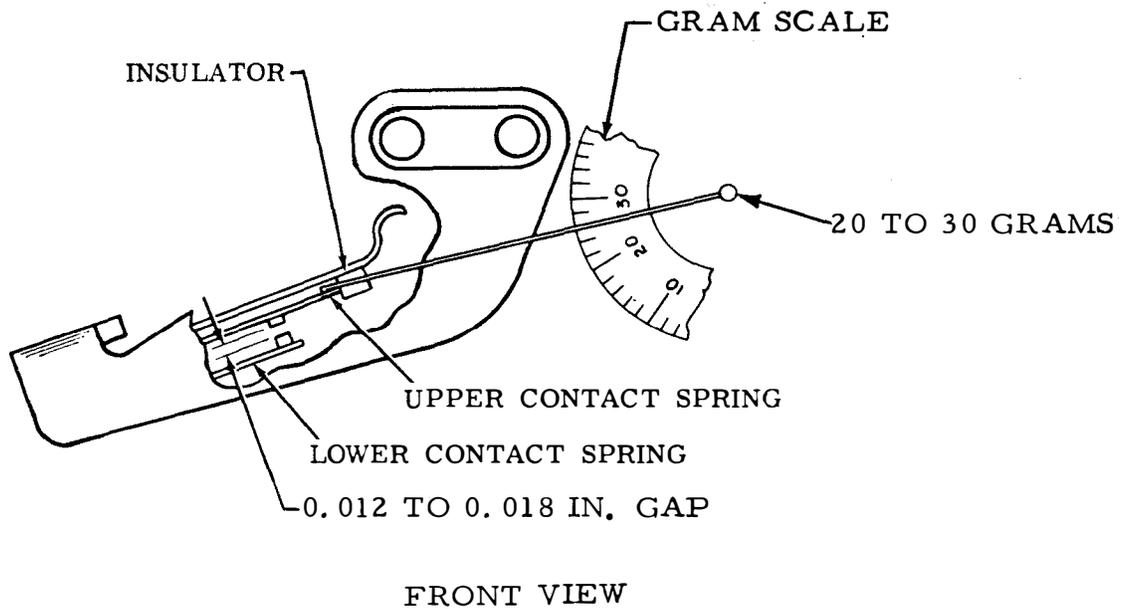

Figure 6-65. Contact Lever and Contact Gap (Start and Stop Contacts)
(1) Contact Lever. Adjust contact lever as follows:
- (a) Refer to figure 6-65.
(2) Contact Gap (Start and Stop Contact). Adjust contact gap (start and stop contacts) as follows: